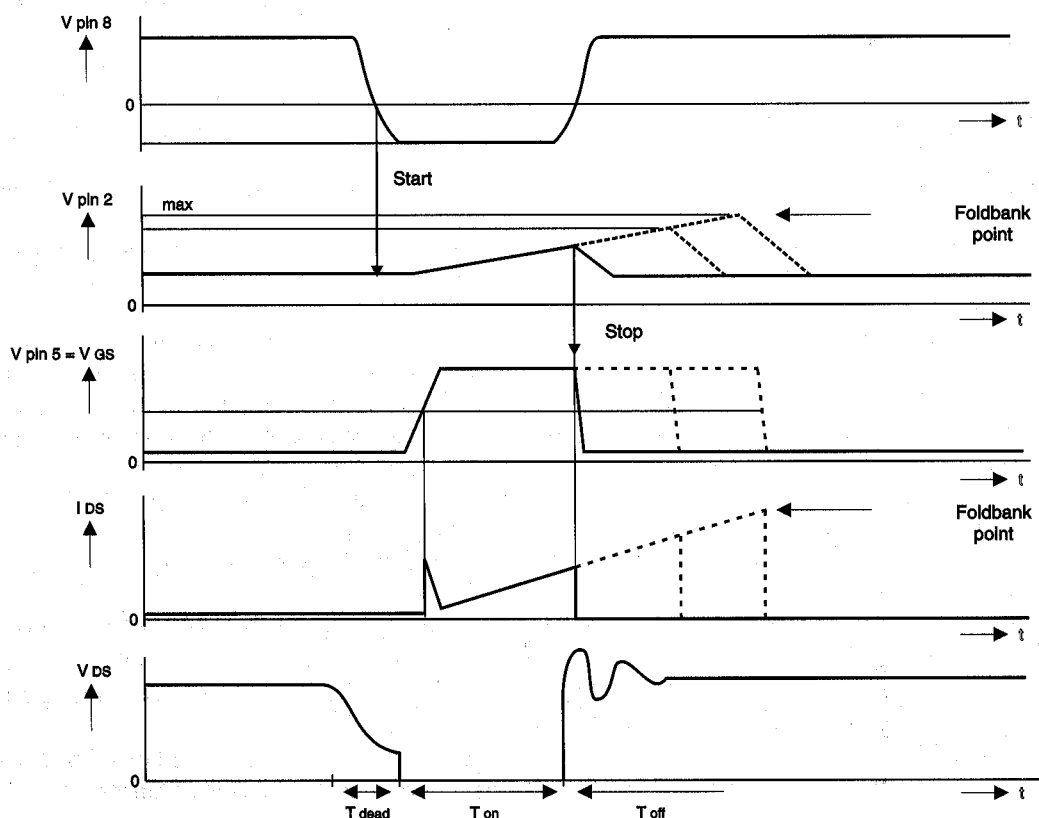

Figure 7.5 Power supply signals
- Start conduction of T7525 (pin 8): A voltage proceeding from winding 4-2 is applied to this pin. The zero crossing detector recognizes the complete discharge of the energy stored in the transformer core, in addition to a dead time depending on C2508. This circuit guarantee that T7525 starts conduction at minimum V_{ds} voltage (see fig 7.5).
Start pulse to T7525 is determined by pin 8 circuit (see fig 7.5).
- Overload protection (pin 2): This is produced if T-on is increased till V2 voltage reaches the foldback point (see fig 7.5). The IC will switch into overload mode (off and on continuously).